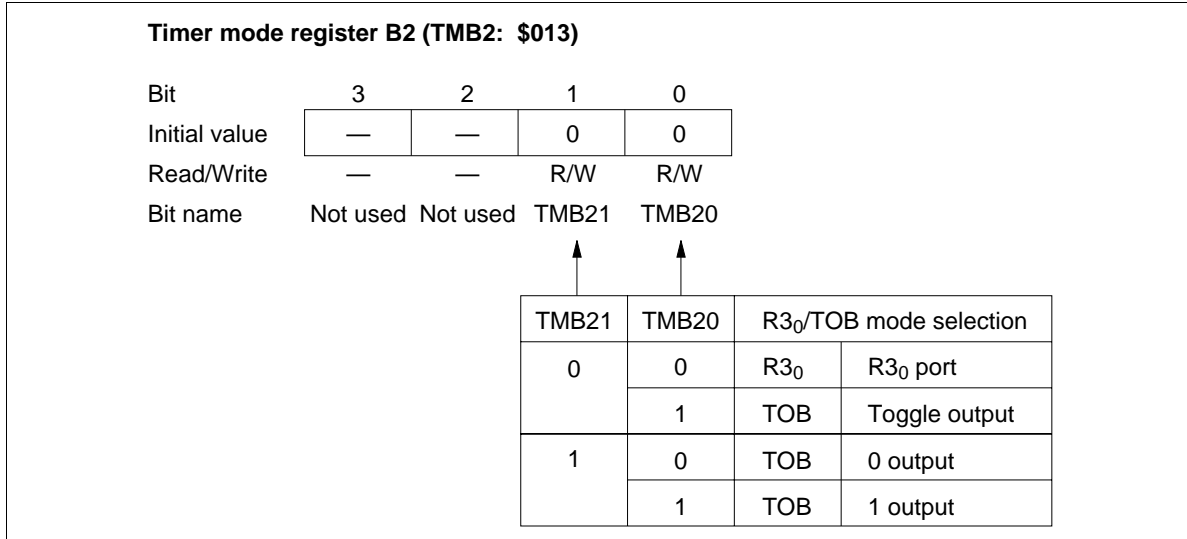

Figure 46 Timer Mode Register B2 (TMB2)
- Timer mode register B2 (TMB2: \$013): Two-bit read/write register that selects the timer B output mode (figure 46). It is reset to \$0 by MCU reset.